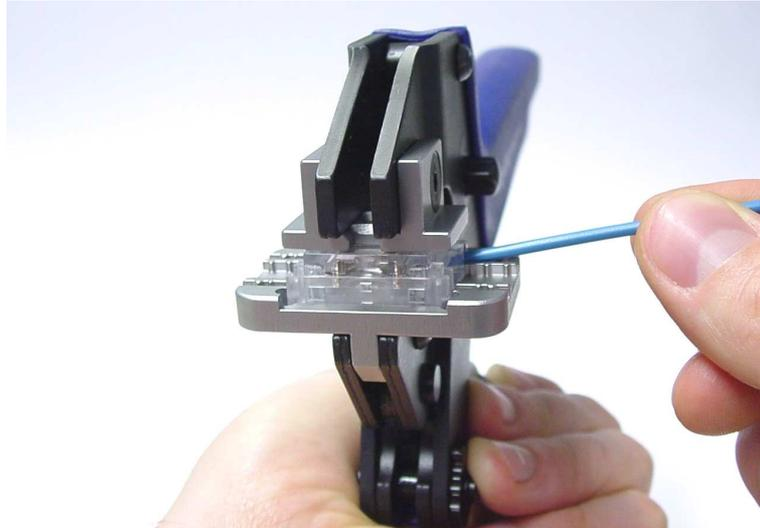
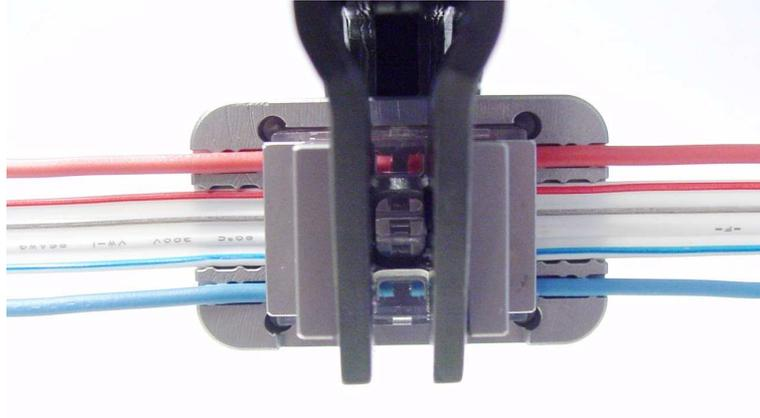
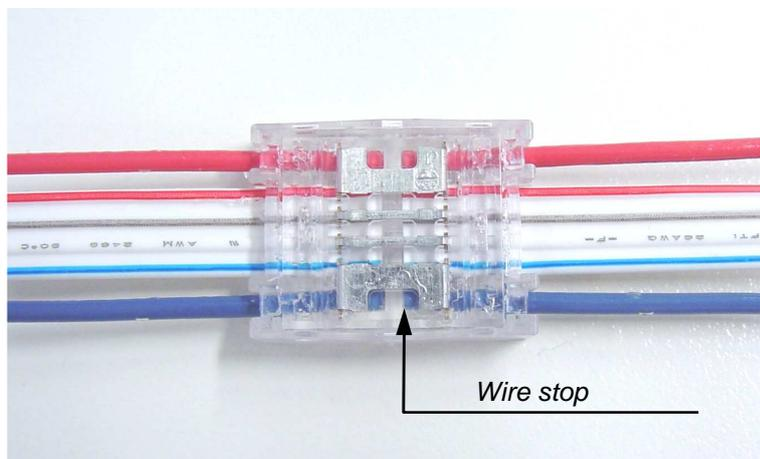

Figure 6
Figure 9
Figure 10
1. At first the connector is equipped with the wires. Pay attention that they are to be held slightly angled (see figure 6 and 7). They are pushed to the stop inside the connector (see figure 9 and 10).
3. The correct position of the wires may be checked by looking at the inserted connector from above. These should be positioned as shown in figure 10 (see figure 9 and 10).